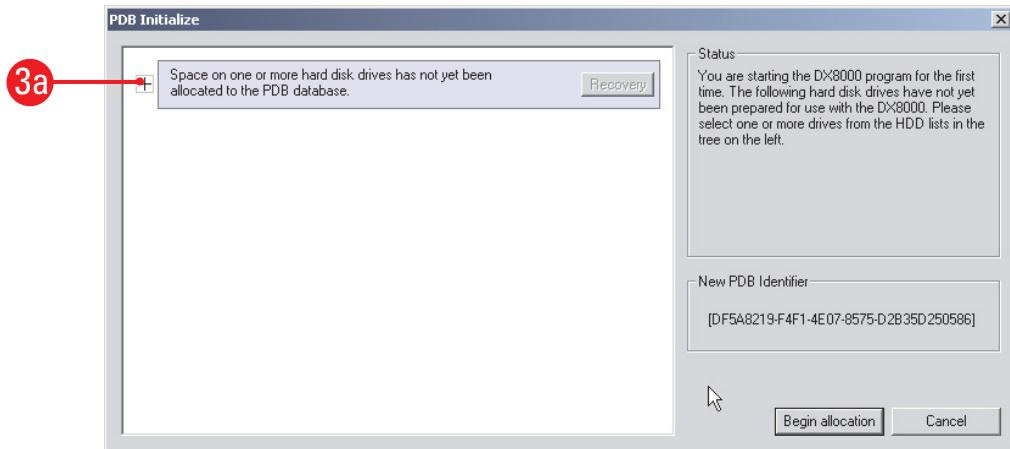

Figure 29. Opening List of Drives
- a. Click the plus (+) sign next to the blue box—the one that reads, "Space on one or more hard disk drives has not yet been allocated to the PDB database." Refer to Figure 29.